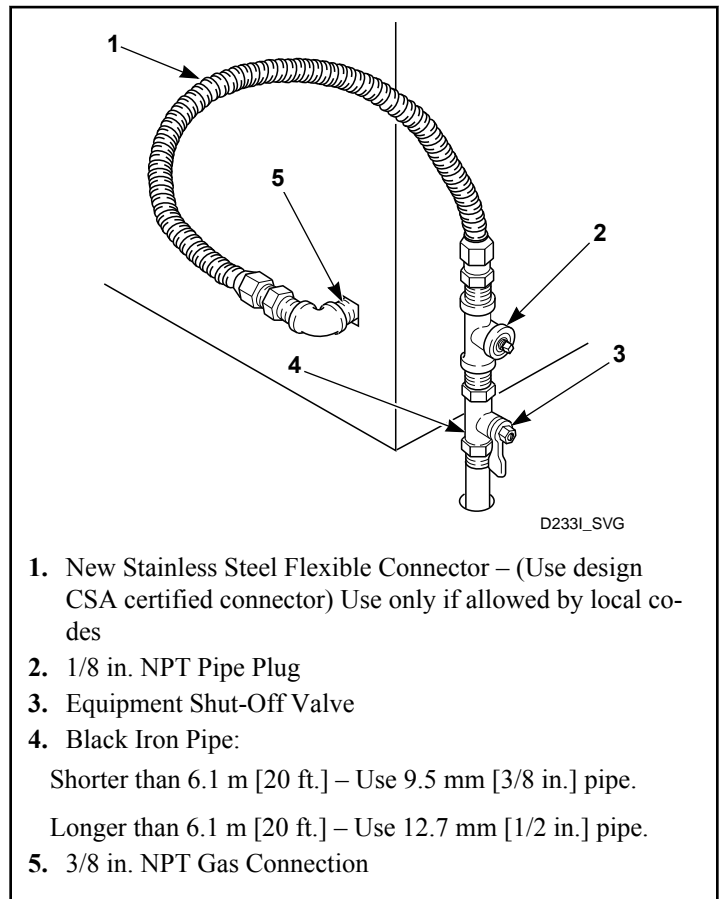

Figure 11
**NOTE: When connecting to a gas line, an equipment shut-off valve must be installed within 1.8 m [6 feet] of the dryer. An 1/8 in. NPT pipe plug must be installed as shown for checking inlet pressure. Refer to *Figure 11*.**